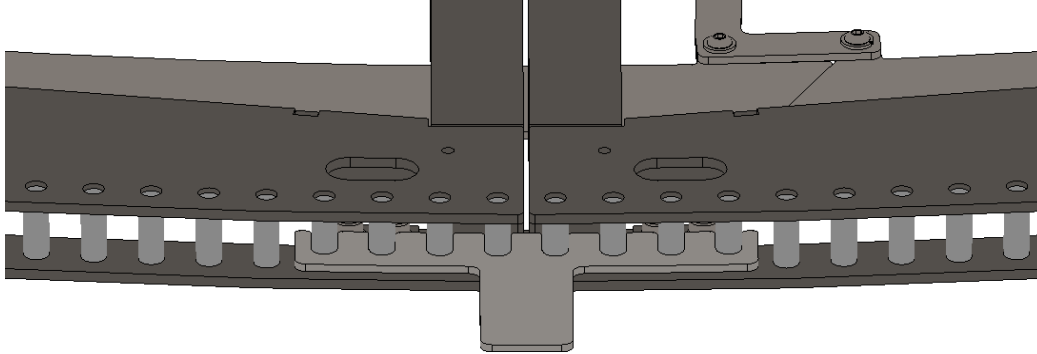

Figure 9: Displayed used of pin spacing alignment tool
Step 7: Place the provided pin spacer tool as shown in figure 9 below, and tighten the four screws (Step 6) for that seam to 35 ft-lb. With the tool still in place, tighten the three long bolts that span the same seam (Step 5) to 30 ft-lb. **Do not over tighten these bolts as it will cause the jig tool to be pinched with the pins, and lead to misalignment.** Lastly, tighten the center screws (Step 4) that fasten the pie structure to the center bearing to 35 ft-lb. Again, repeat this for the remaining screws.